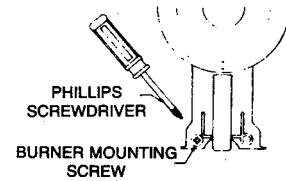

FIGURE 5
Before attempting to remove the burners, be certain the four (4) burner mounting screws which retain the burners to the burner supports are removed (see fig. 5). If the screws are still secured, they can be removed with a Phillips screwdriver.